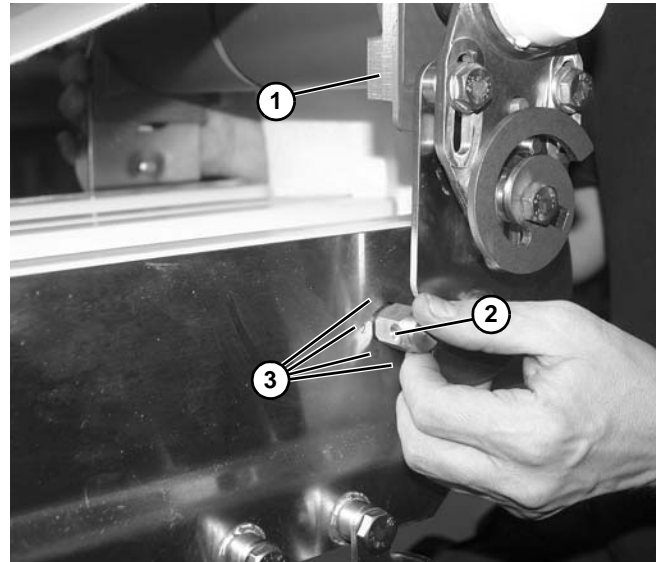

Figure 51
- Rotate idler tail (Figure 51, item 1) up as shown. Pull out and rotate dimpled end of hex bar (Figure 51, item 2) into one of four locations (Figure 51, item 3) marked on the side of conveyor frame.